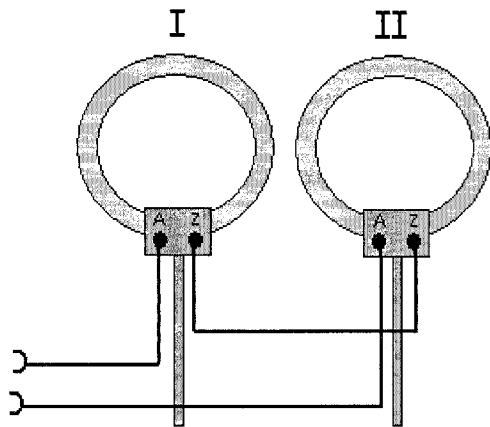

Fig. 1.1 Series connection
- For series connection, connect socket Z of coil 1 to socket Z of coil 2 (refer to Fig 1.1).